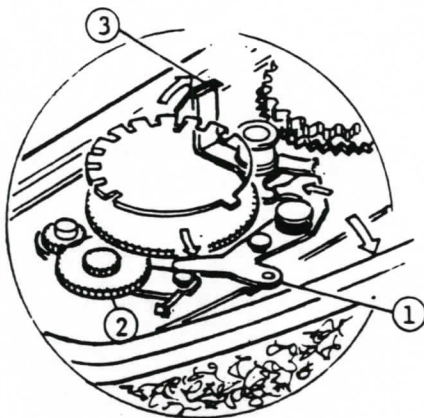

Fig. 121
* Release plate (1), Third gear (2) and Release lever (3) come off from Film counter gear by opening Back cover. Consequently, Exposure counter automatically resets to S (Start) as shown in Fig. 121.